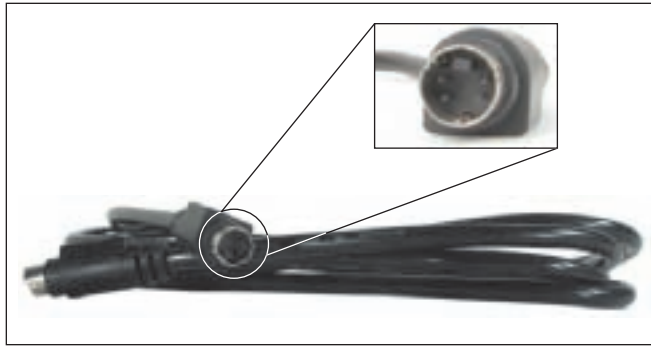

Figure 9-32 An S-Video cable used to connect a video card to an S-Video port on a television
- ▲ *S-Video (Super-Video) port.* An **S-Video port** sends two signals over the cable, one for color and the other for brightness, and is used by some high-end TVs and video equipment. It uses a 4-pin round port. The television and the video card must support this method and you must use an S-Video cable like the one shown in Figure 9-32. This standard is not as good as RGB for monitors, but is better than composite video when output to a television.